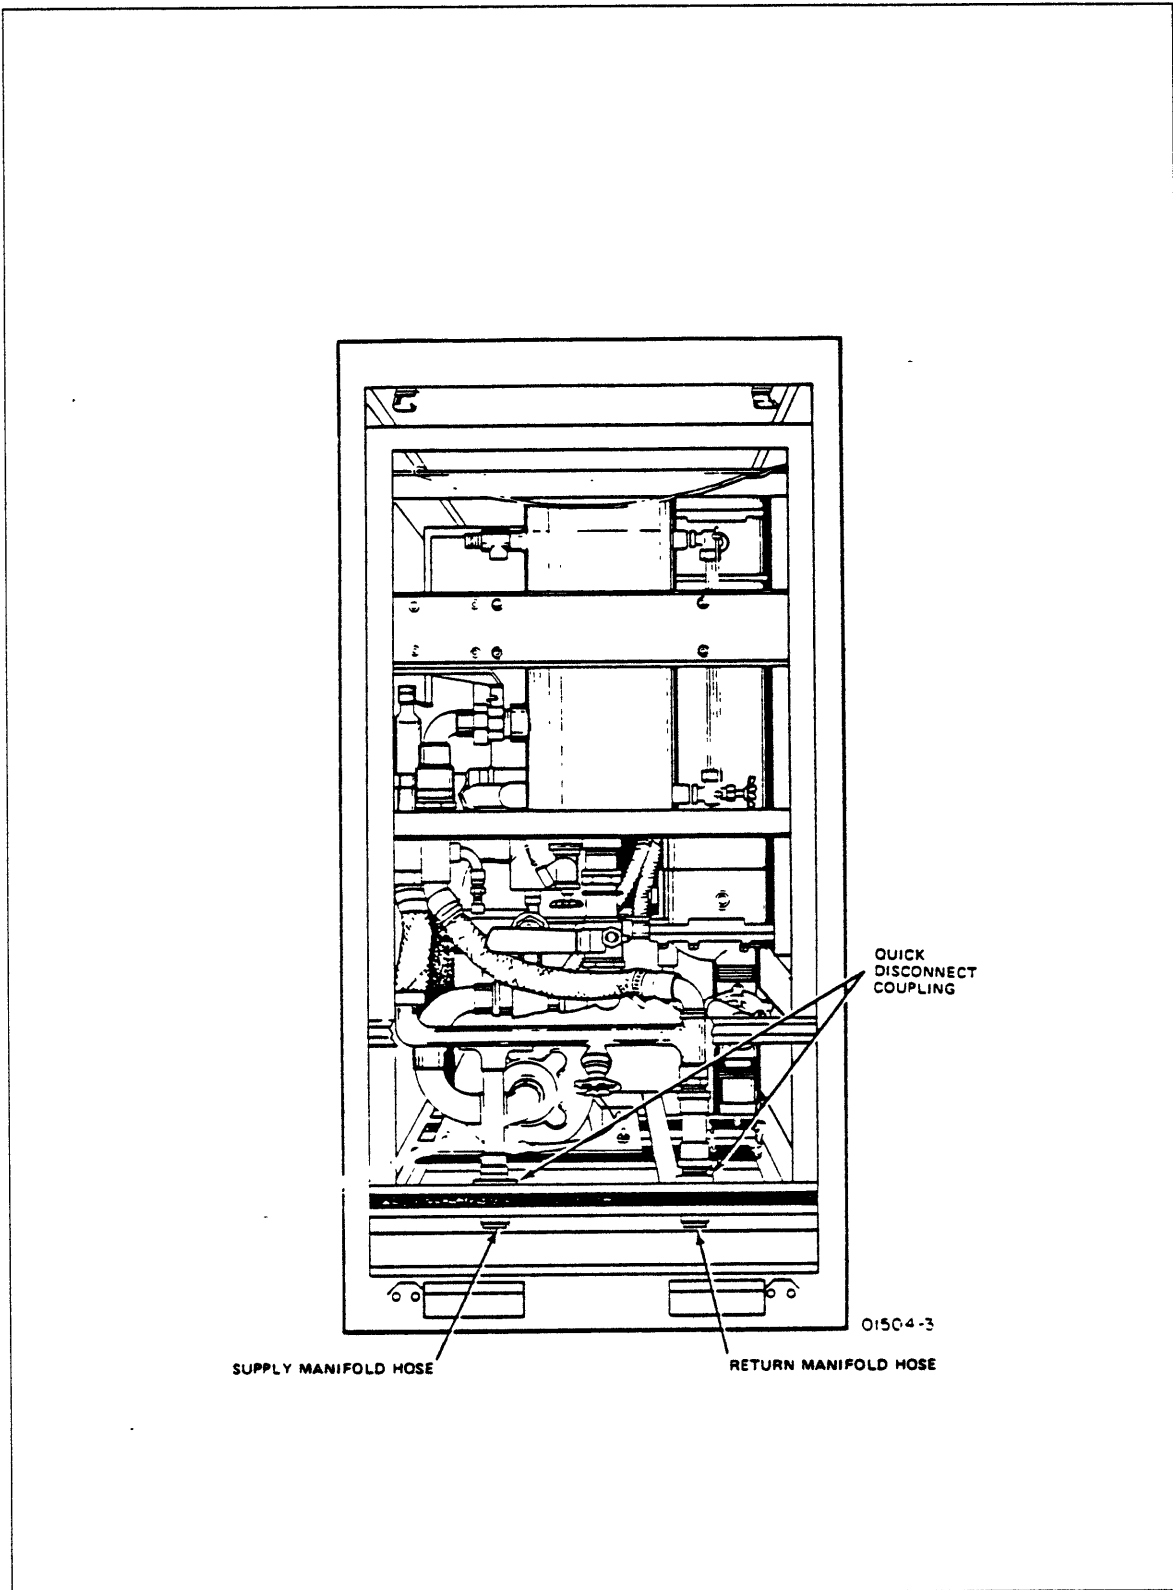

Figure 5-11. Water Manifold Hose Connections to GH251-C WCU
Use this procedure to connect preinstalled supply and return hoses on the water supply and return manifolds to the water cooling unit. Refer to figure 5-11.
4. Connect transformer A1T2 for correct site voltage using table in figure 5-11.